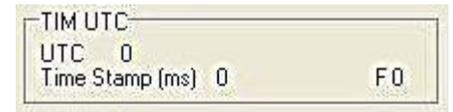

Figure 15. TIM UTC Section
5.5 TIM_UTC - This section displays the (UTC) when a valid data is available from the GPS receiver (Figure 15). The message ID for the TIM_UTC message is "25." Each piece of information is detailed below.